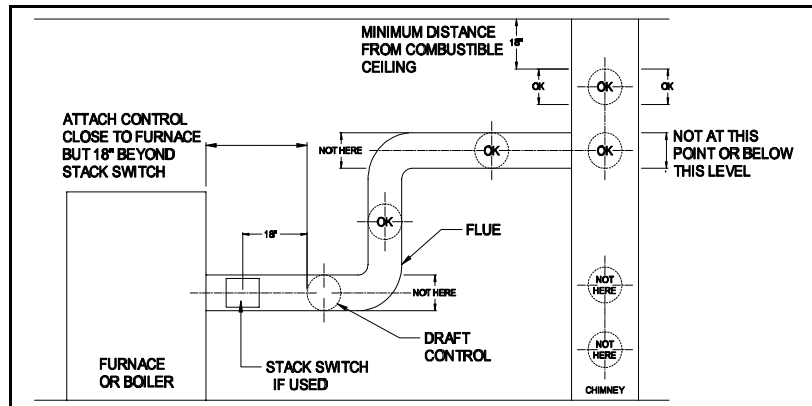
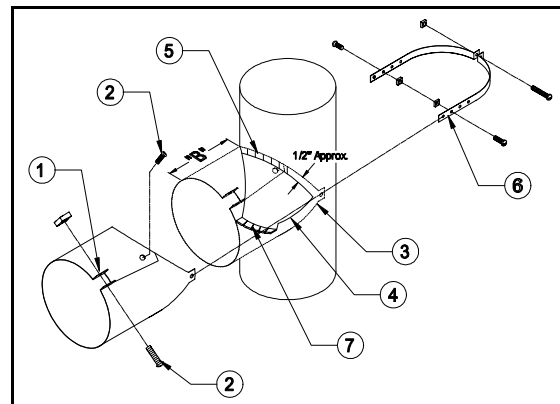

Figure 1
Figure 2
The Firestop/Joist Shield (JS) can be installed on the top or bottom of a joist area but is most effective as a firestop if installed from beneath. As such, unless otherwise directed to do so, install Firestop /Joist Shield (JS) in the orientation shown in Fig. 1A with the plate to the bottom side and the shield extending up through opening (See Fig. 2).
2. Place the Firestop/Joist Shield over the chimney and attach to the framed opening as shown in (See Fig. 2).
The control should be located as close as possible to a furnace or boiler and positioned as shown in Figure 1. It should be 18" from a stack switch and at least 18" from a combustible ceiling or wall. Do not locate in a room separated from the appliance. **NOTE:** When a sheet metal tee is used instead of the collar, the "B" dimension must not be less than indicated for proper operation. (See Figure 2 and Table 1)
To attach the collar to the flue, see Figure 2 and follow the instructions as follows:
Insert the draft control into the collar. The front face of the control must be plumb. The pivot points must be level whether the control is on a horizontal, vertical, or sloping flue pipe. Use a spirit level, plumb and level accurately. Secure the control in the collar by tightening the clamping screws. If the collar is not supplied by Field, the control may be held in place by small bolts or sheet metal screws so located as not to interfere with the movement of the gate. When a sheet metal TEE is used instead of the collar, the B dimension must not be less than indicated for proper operation. The "B" dimension prevents the damper gate from obstructing the flue passage way. See Figure 2 and Table 1.